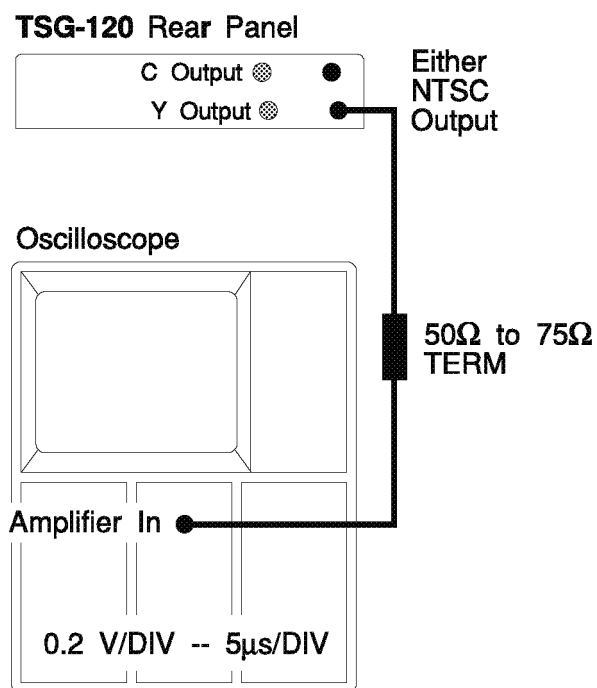

Figure 4–6: NTSC signal blanking level test setup
- a. Connect the equipment as shown in Figure 4–4 (channel A selected) or 4–6.
- a. Connect the equipment as shown in Figure 4–4 (channel A selected) or 4–5.